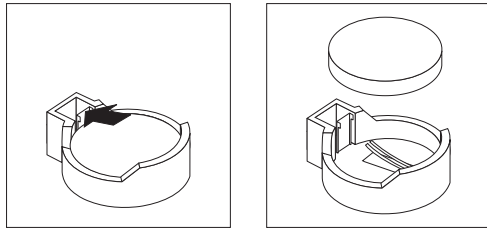

Figure 50. Releasing the battery
- a. Use one finger to press the top of the battery clip away from the battery until the battery releases upward from the socket as shown in Figure 50 on page 116.